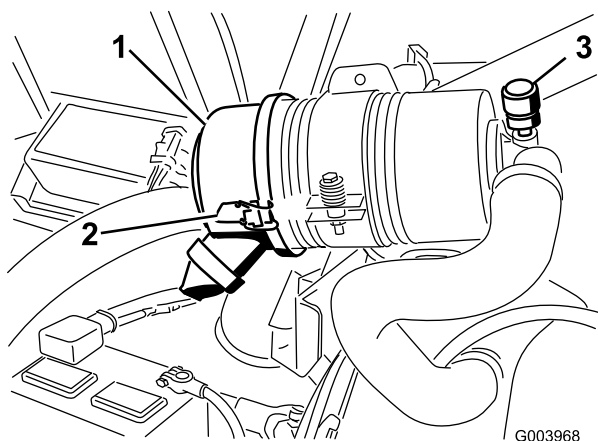

Figure 58
Service the air cleaner filter only when the service indicator (Figure 58) requires it. Changing the air filter before it is necessary only increases the chance of dirt entering the engine when the filter is removed.
1. Release the latches securing the air cleaner cover to the air cleaner body (Figure 58).